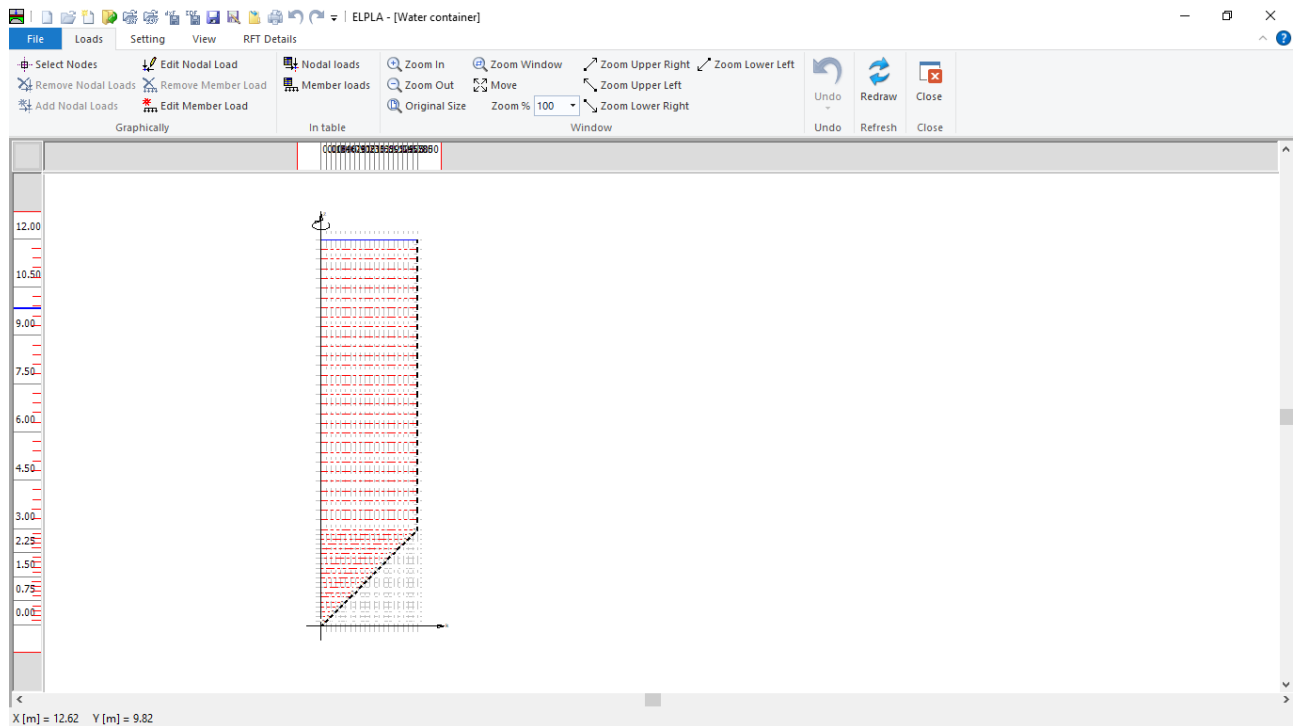

Figure 10.21 "Loads" Window
To define the loads, choose "Loads" command from "Data" Tab. The following window in Figure 10.21 appears.
In *ELPLA*, entering loads may be carried out either numerically (in a table) or graphically using the commands of "Loads" Tab in Figure 10.21. In this example, there is not applied load, as the vertical load has been already defined by the unit weight of the tank, while the hydrostatic pressure on the tank wall is defined by the unit weight of water.
- Choose "Save" command from "File" menu in Figure 10.21 to save the load data
- Choose "Close" command from "File" menu in Figure 10.21 to close the "Loads" window and return to *ELPLA* main window